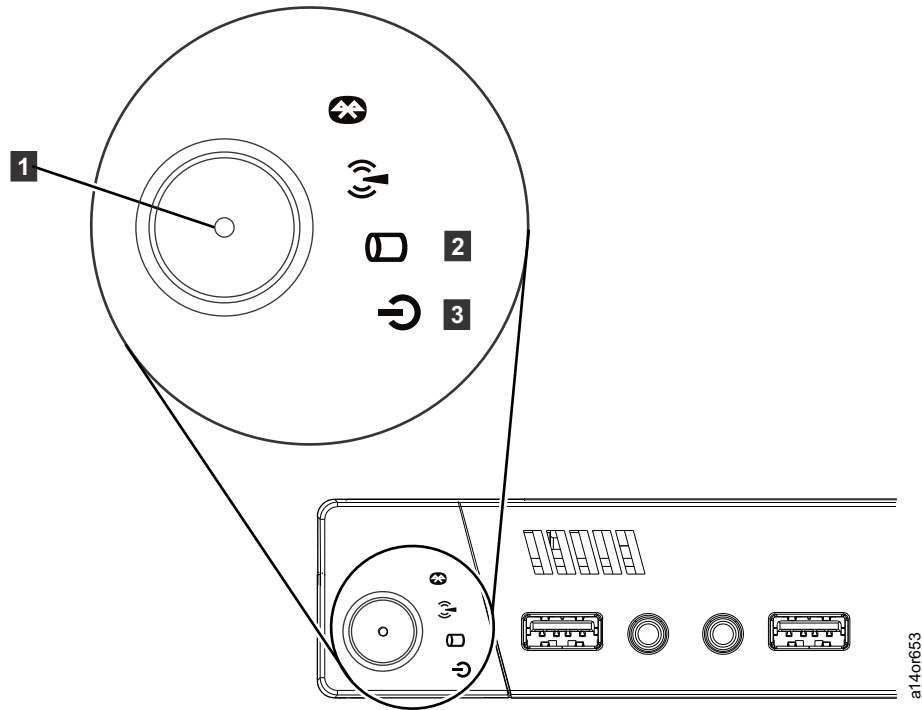

Figure 22. Model M93p power button
2. Power on the TSSC server by pressing the power button **1**. See Figure 21 or Figure 22 on page 25 depending on your server type.